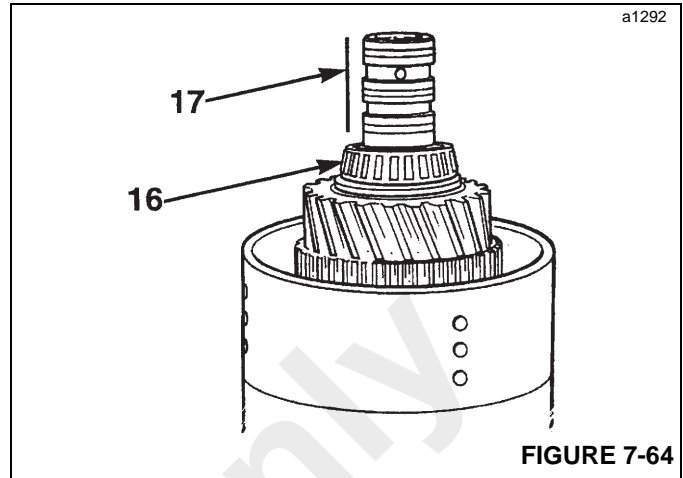

FIGURE 7-64
16. Coat the clutch end bearing (16, Figure 7-64) with grease and press the bearing onto the shaft.